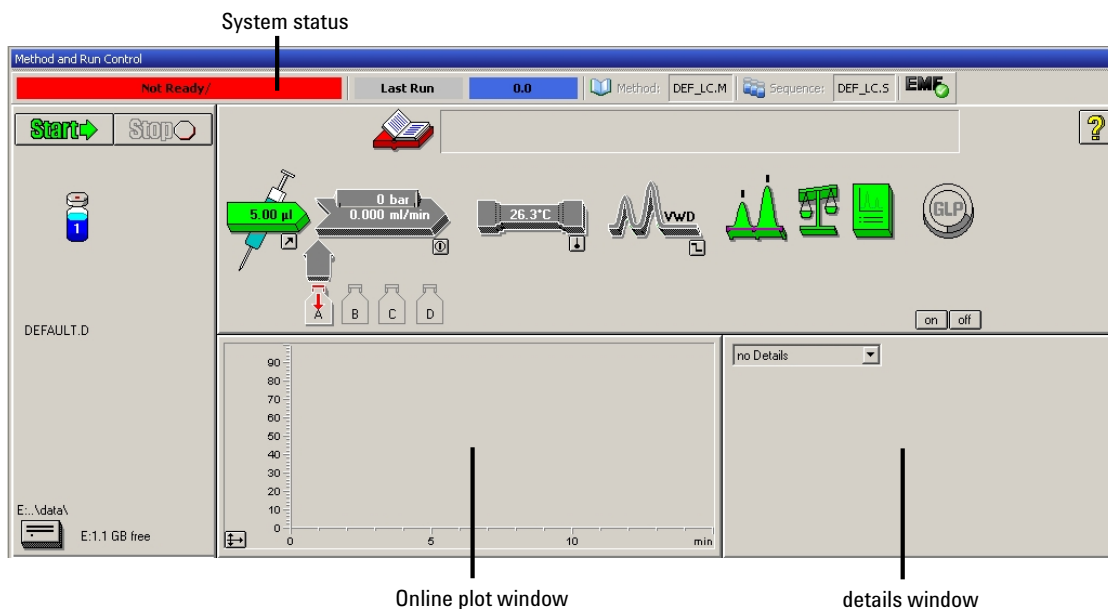

Figure 14 Initial Agilent ChemStation screen (Method and Run Control)
- 3 Start the Agilent ChemStation software. If the pump, autosampler, thermostatted column compartment and detector are found, the Agilent ChemStation screen should look like shown in Figure 14 on page 56. The System status is red (**Not Ready**).